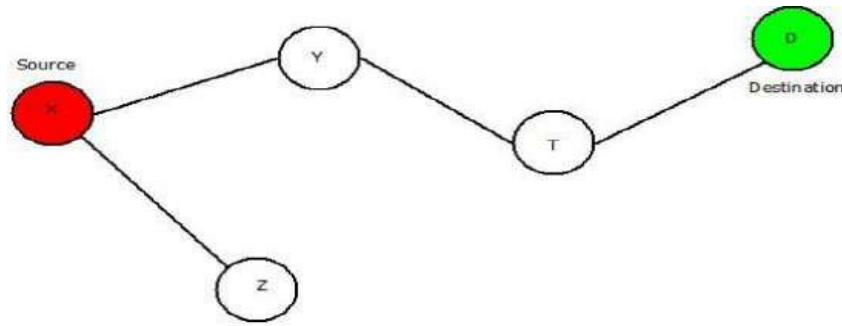

Figure 1.13 Sample Network of AODV
- Consider a network (Figure 1.13) containing 5 nodes that are “X”, “Y”, “Z”, “T”, “D” present at unit distance from each other, where “X” being the source node and “D” being the destination node.